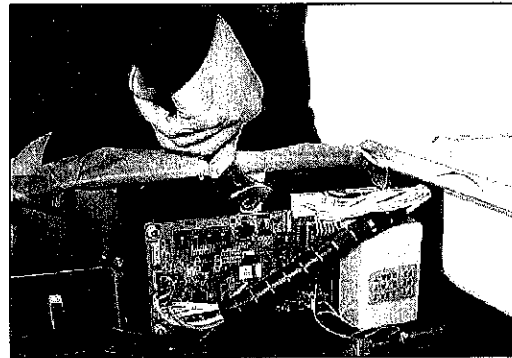

fig.35
- Close the washing machine's control panel using the 22mm wrench (7/8 inch.). (fig. 35).